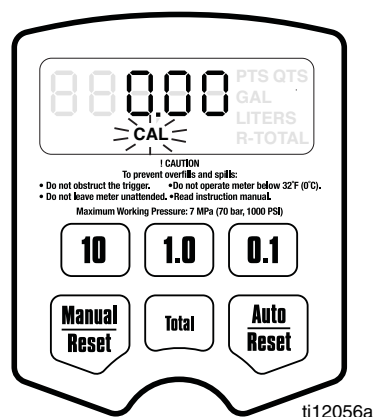

FIG. 26
- c. Press and hold the *Auto / Reset* button again to display the Calibration Menu (FIG. 26, page 18). When this menu is displayed CAL will blink on the screen.
Calibration (FIG. 26)